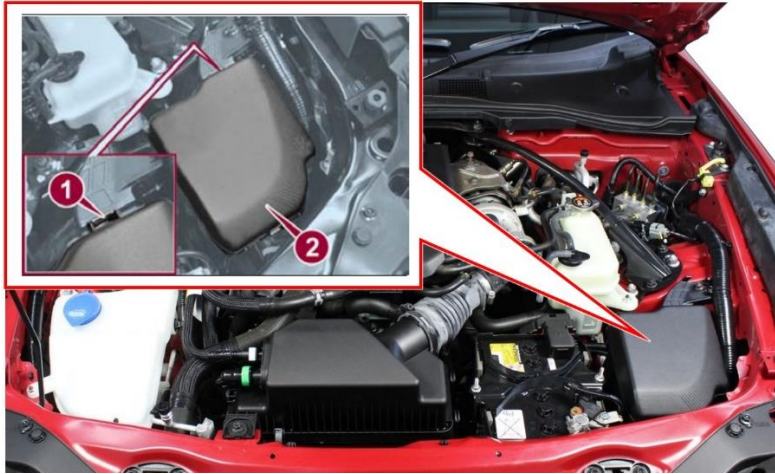

Figure 1 – Fuse Box
2. Release the fuse box latch (1) then open the cover (2) (Figure 1).